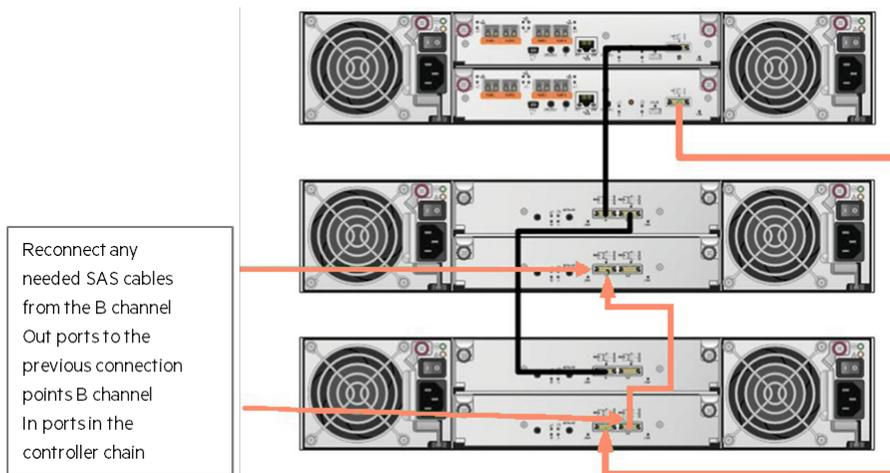

Figure 30. Completed B channel cabling configuration
7. Connect or reconnect a SAS interconnect cable from the last B channel Out port to the previous disk enclosure's B channel In port, as indicated in Figure 30.